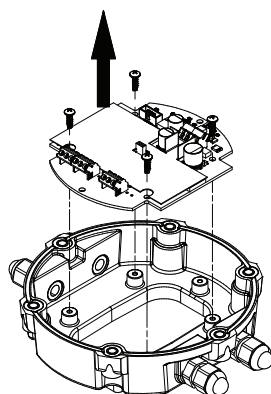

Figure 13
and remove (4) screws retaining the PC board assembly (see Figure 13).